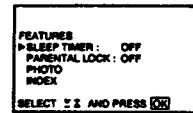

Fig. 19
- 3 Select "SLEEP TIMER" with $\Delta+$ or $\nabla-$ and press OK. (See Fig. 19.) The time period option changes colour.